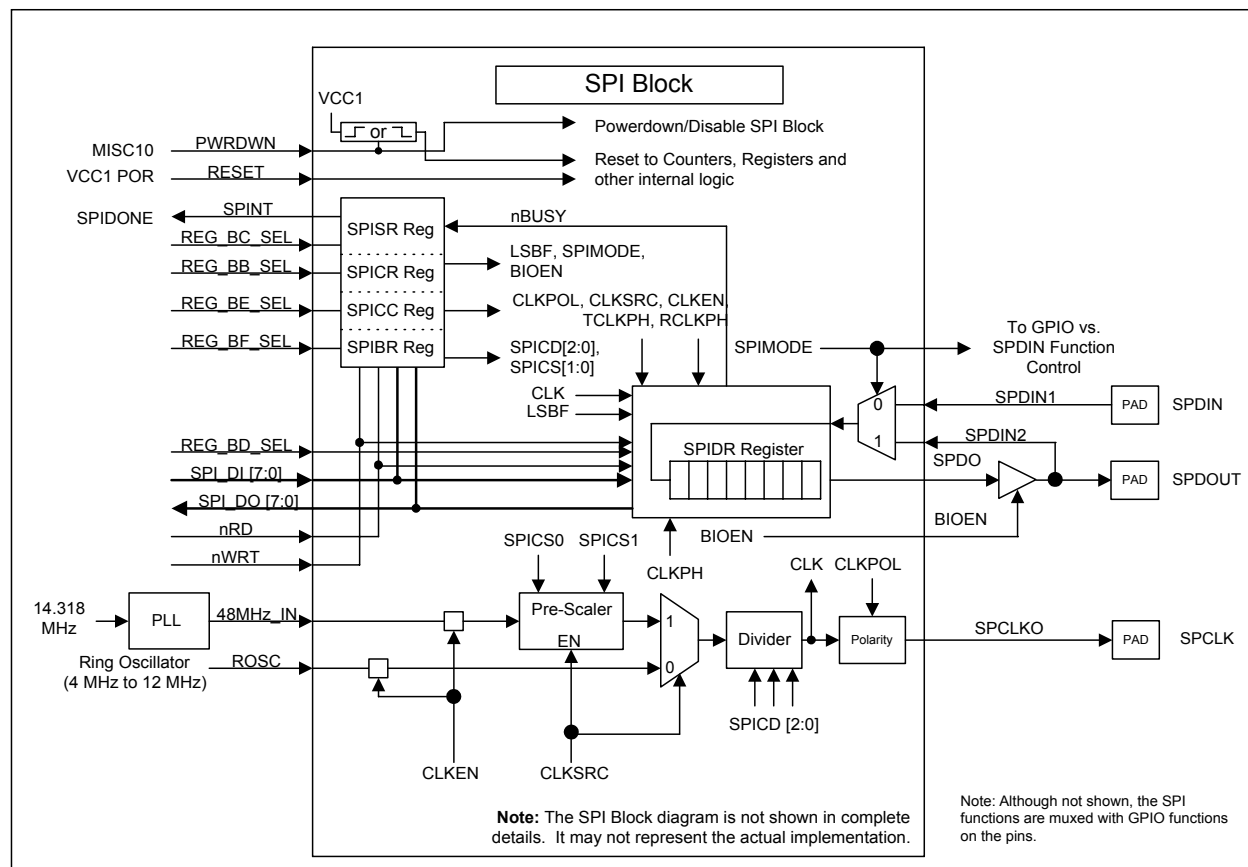

Figure 16.1 SPI Block Diagram
Figure 16.1 shows the SPI block diagram. See Section 16.3, "Interface Description," on page 194, Section 16.4, "SGPIO vs. SPI Function Control," on page 195, Section 16.7, "SPI Registers," on page 197, and Section 16.8, "SPIDONE - 8051 Interrupt," on page 203 for description on SPI block signals, SPI pins and registers.
- The LPC47N350 SPI can be configured to operate in two modes: Full Duplex and Bidirectional (see Figure 16.1 on page 193). See Section 16.5.1, "Full Duplex Mode" and Section 16.5.2, "Bidirectional Mode" for detailed descriptions of each operating mode.
- In Full Duplex Mode, serial data is transmitted and received simultaneously by the SPI master over two separate data transmission lines as shown in Figure 16.1 on page 193. See Section 16.7.1.2, "D1 - SPIMODE - SPI Mode," on page 198 for SPI mode configuration.
- Input and output serial data share the SDO pin, as shown in Figure 16.1 on page 193 using the BIOEN bit (See Section 16.7.1.3, "D2 - BIOEN - Bidirectional Mode Output Enable," on page 198).
- The LPC47N350 SPI can be configured to run from the Ring Oscillator or a PLL source (See Section 16.7.4.3, "D2 - CLKSRC - SPI Clock Source," on page 201 and Section 16.7.4.4, "D3 - CLKEN - Clock Enable," on page 201). The PLL uses the 14.318 MHz input clock and is active under VCC2 power only. The Ring Oscillator frequency range is from 4MHz to 12 MHz. See Figure 16.1.